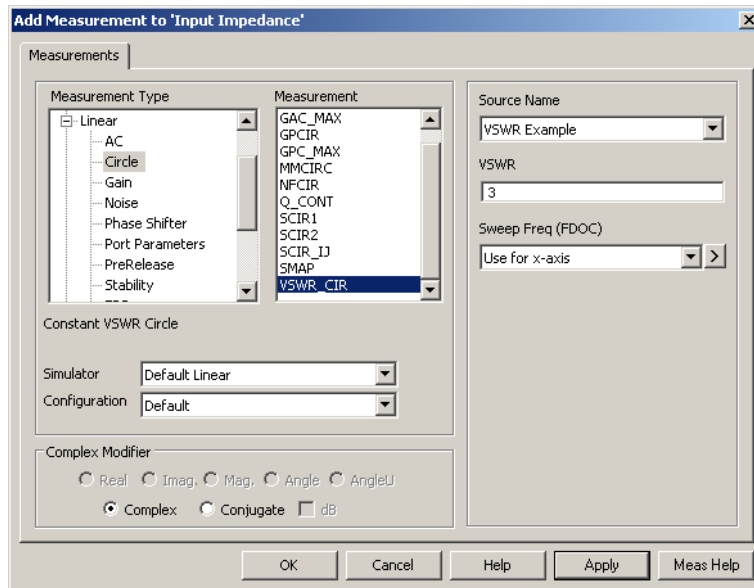

Figure 5.7: Chart 3 : Add Measurement Dialogue Box, VSWR Circle (Smith Chart)
- Change your measurement dialogue box to match figure 5.7.